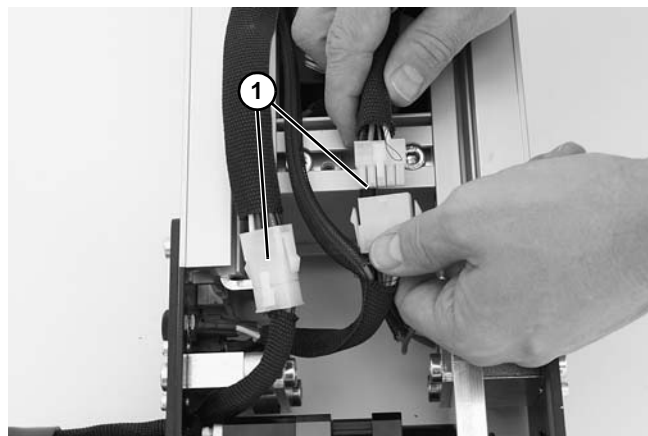

Figure 154
3. Disconnect two wiring harness connectors (**Figure 154, item 1**).